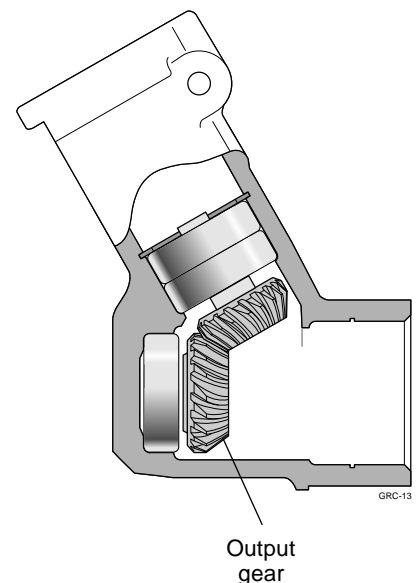

Figure 11.12 Hande-fit the output gear into the gearcase.
STEP 1. Using hand pressure only, locate the output gear in the gearcase (Figure 11.12).